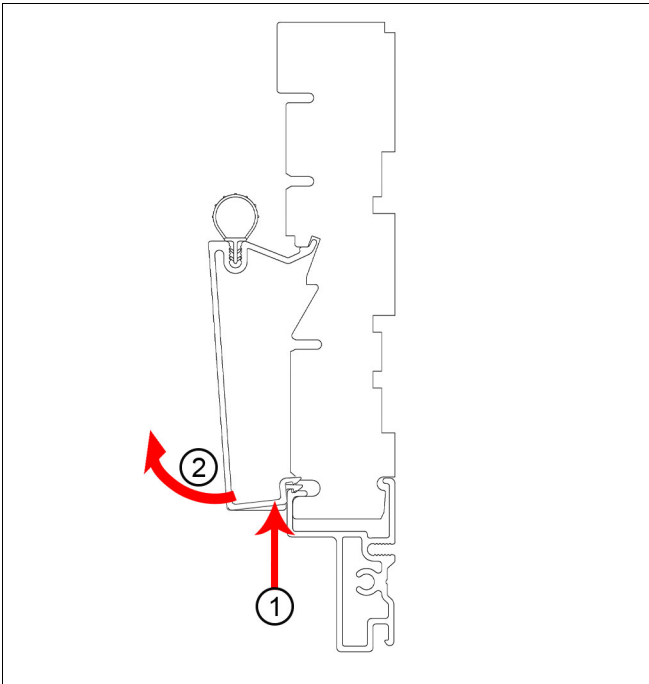

Figure 16 Exterior clad parting stop
9. Remove any exterior side jamb parting stops. Starting at the top of the stop, use a hammer and wood block to disengage the stop from the jamb snap feature. Push the parting stop in and rotate it out. See Figure 16.